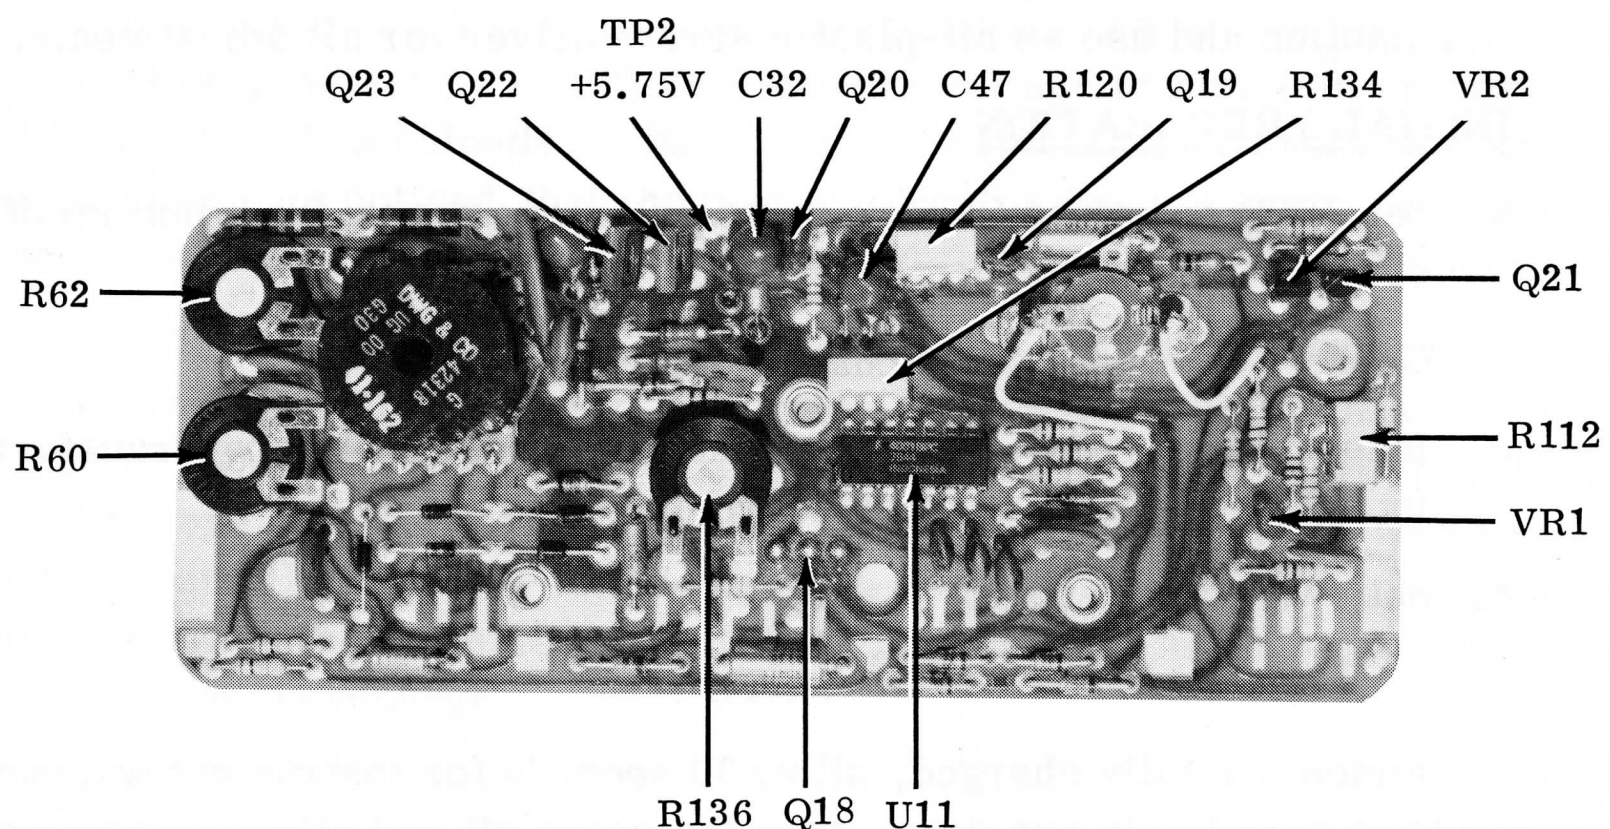

Figure 4-1. Component Location - Rear Board
3-4. Besides internal triggering, the scope can also be triggered from an external signal, the power line, or the horizontal sweep will free run if there is no triggering sources available. In following the various internal circuit descriptions below, refer to figure 3-1 - see also figures 4-1 and 4-2 for component location.
- b. Using another oscilloscope with vertical deflection calibrated to 1% or better, connect its ground to MS-215 ground and its input to upper fuse terminal. Also connect a 2 k Ω resistor from upper fuse terminal to ground. Adjust R112 (figure 4-1) until peak-to-peak voltage measures 7.2 VDC.
- d. Check to see that red power indicator LED on front panel is illuminated. If not, adjust R120 (figure 4-1) CCW and turn PWR switch off and then on again.
- e. Connect an LM-3.5A between TP2 (figure 4-1) and ground.
- f. Adjust R120 (figure 4-1) until multimeter reads +5.75 VDC.
- c. Adjust R134 (figure 4-1) so that retrace just appears at top and/or bottom of square wave. Note position of R134.